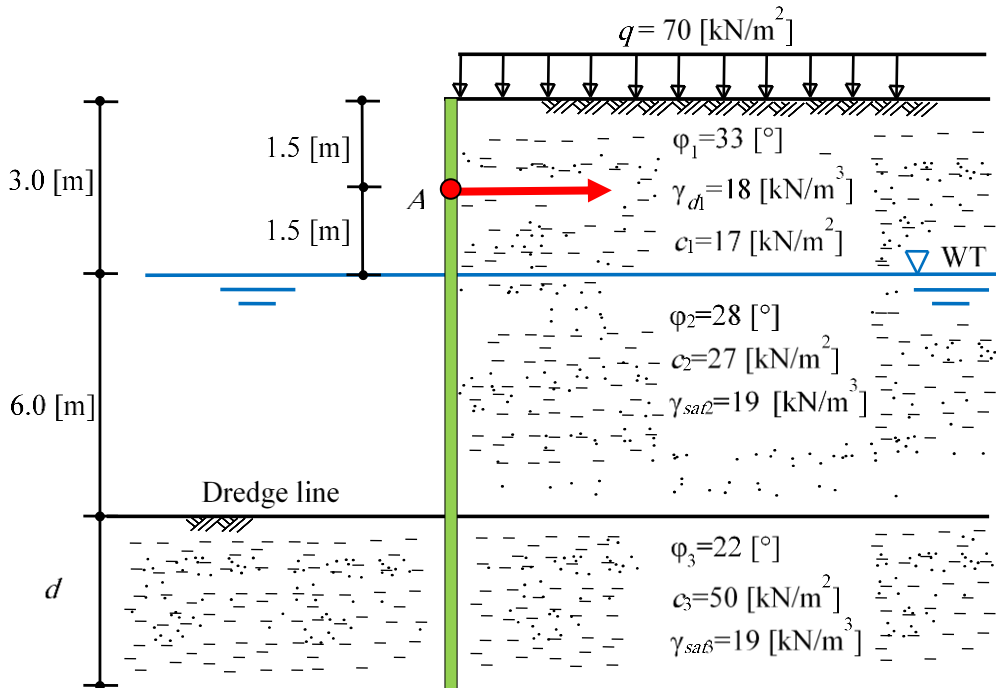

Figure 5.50 Anchored sheet pile penetrating in clay
To verify the analysis of anchored sheet pile penetrating in  $c$ -  $\phi$  soil, the theoretical penetration depth  $d$  for the given anchored sheet pile penetrating in  $c$ -  $\phi$  soil in Figure 5.50 obtained by *Al-Agha* (2015), Problem (1) page 237, through hand calculation using free earth support method is compared with that obtained by *GEO Tools*. The unit weight and shear parameters of the soil layers are shown in Figure 5.50.